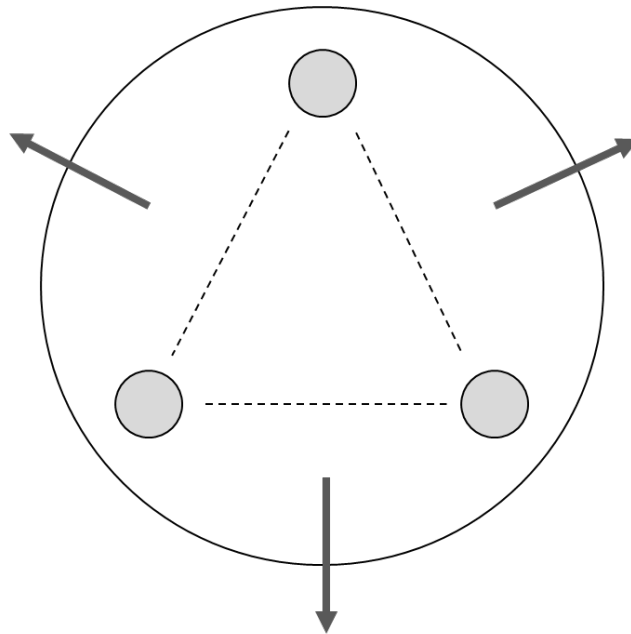

Figure 2: Tip directions for EPC with 3 legs. (Top view)
- Hold the pressure cooker where it can overturn. Measure the new height of the same point (H_i) (Figure 2)